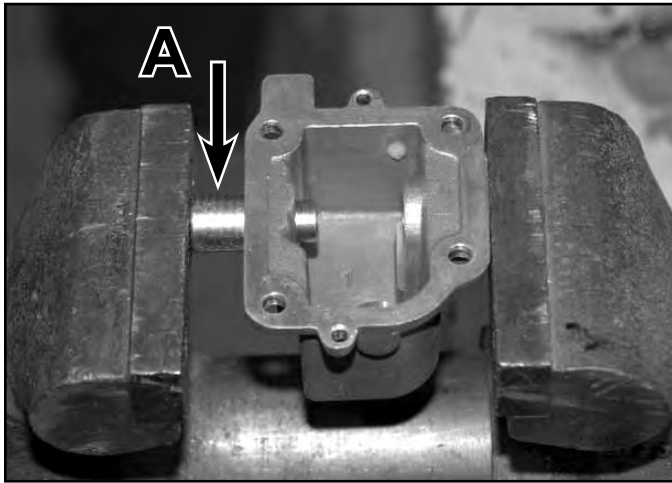

Fig 016
**Note:** The bushings are two different lengths. The side of the case with the thicker boss uses a longer bushing to support the axle. The bushings should be flush with the inside of the case (Fig. 016).